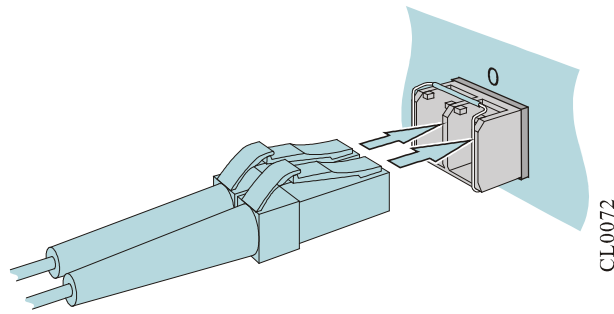

Figure 4-17 Connect the optical fiber
- Step 4: Insert the prepared optical fibers into the ports of the optical module in sequence, as shown in Figure 4-17.